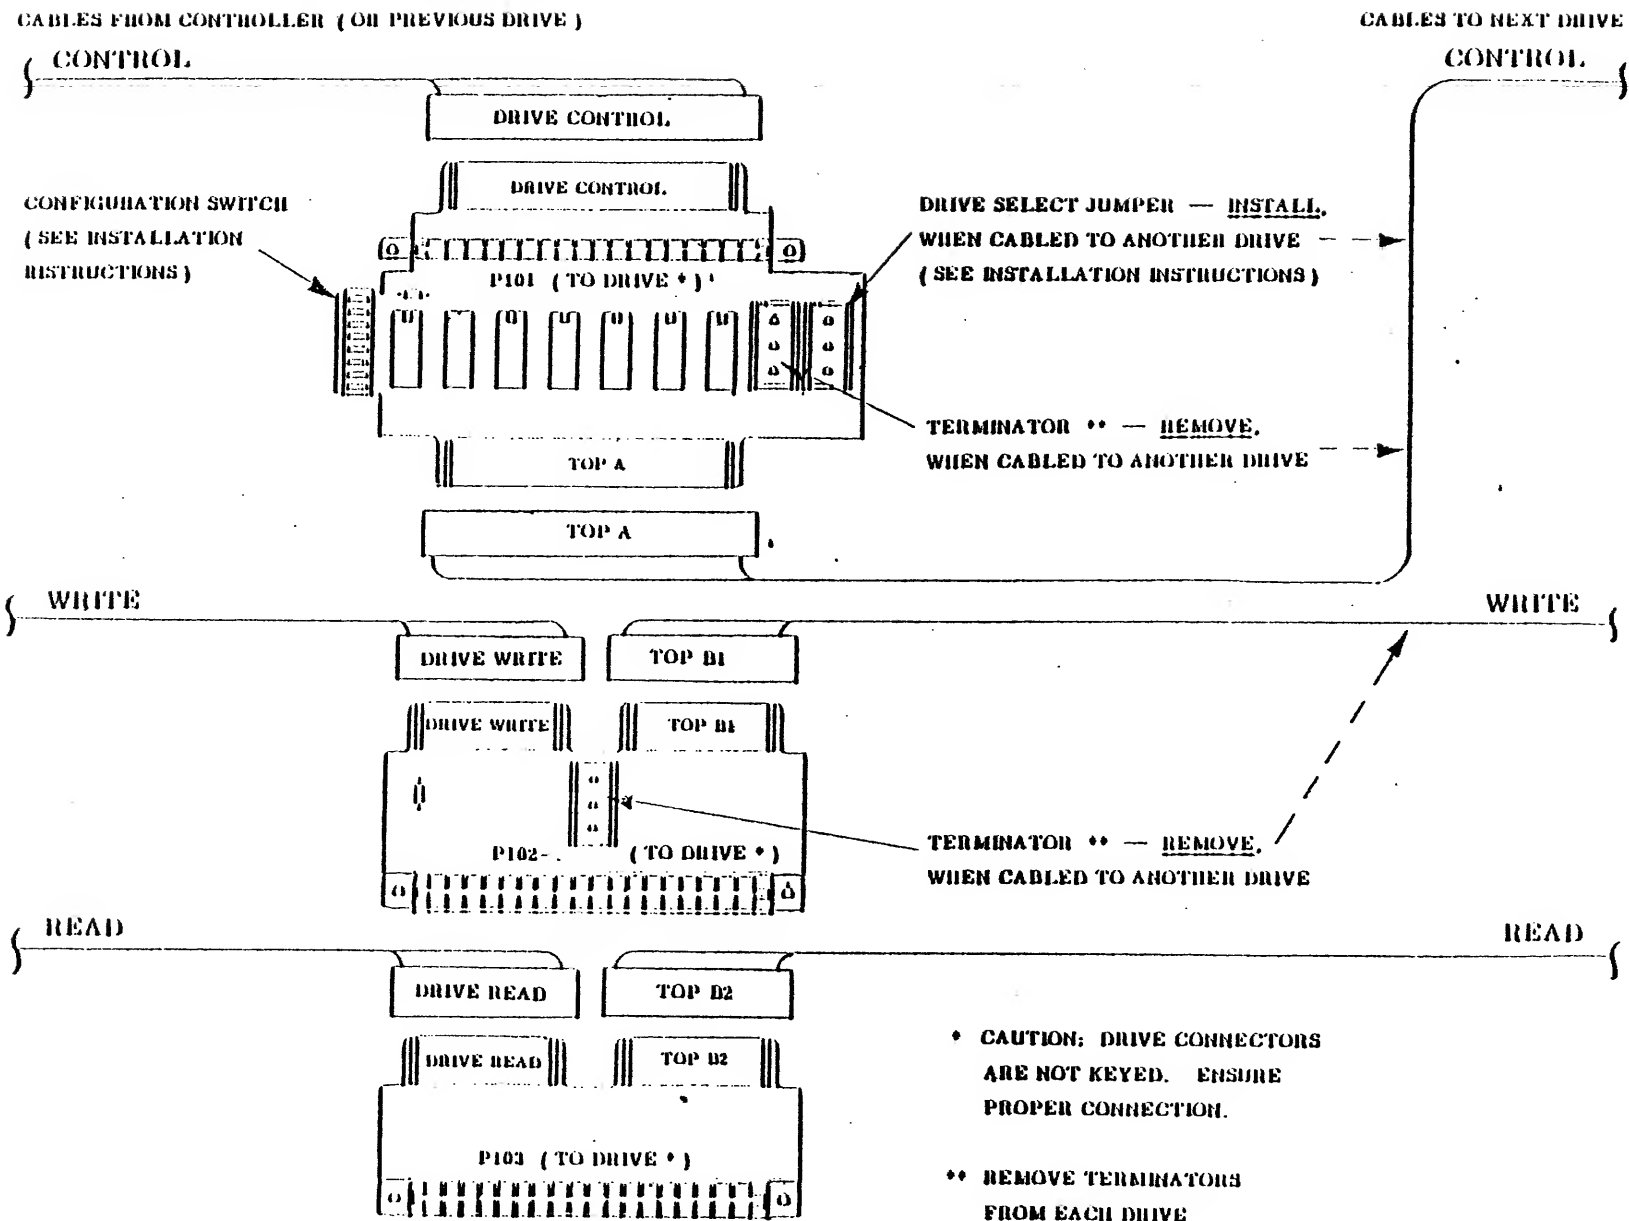

Figure 2-5. Details of Adapter Installation
2.21 TERMINATORS. Consulting the tape manuals for details, remove all termination devices from each drive. Remove the terminators from the Write and Control Adapter Paddleboards, except the Adapter Paddleboards on the drive located farthest from the controller. See Figure 2-5. Ensure that the last Adapter Paddleboards have the terminators installed as shown.